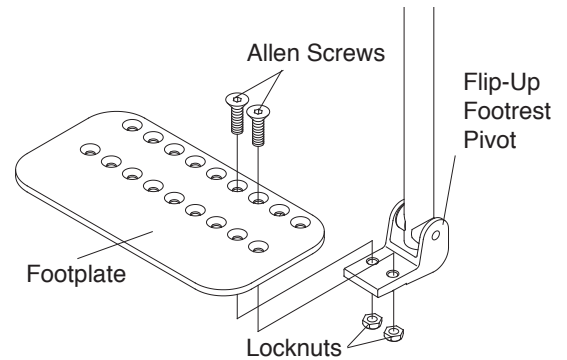

Figure 7
1. Remove the flat head Allen Screws and locknuts that attach the footplate to the flip-up footrest pivot. See Figure 7.